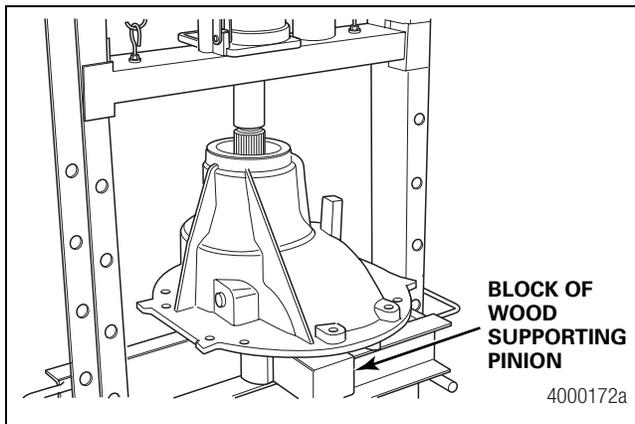

Figure 5.7
- Place the carrier into a press. Figure 5.7.
- Install the pinion shaft assembly into the carrier. Seat the inner bearing cone fully against the inner bearing cup. Figure 5.7.
- Support the pinion shaft with blocks of wood so that it remains fully seated in the carrier. Figure 5.7.